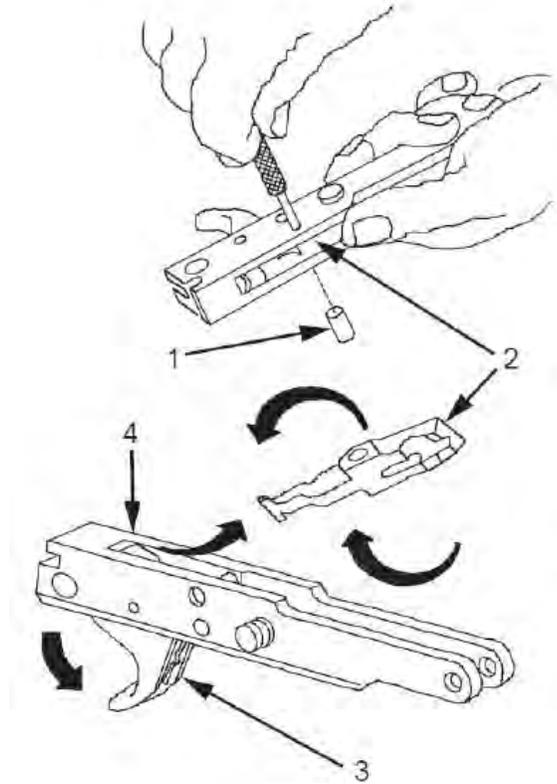
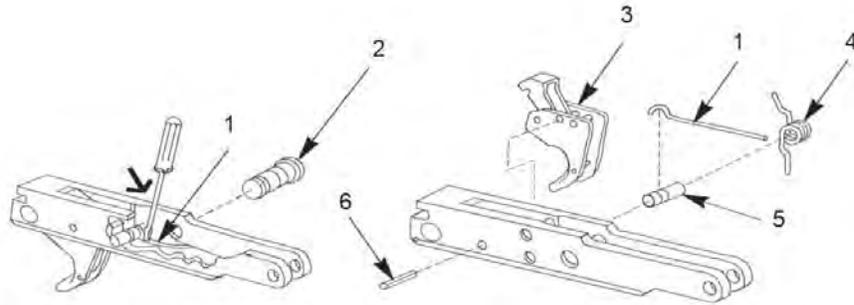

Figure 2. Sear, Sear Pin, Trigger, Tripping Lever
Figure 3. Grooved Pin and Spring Pin Removal.
6. Apply slight pressure on sear (Figure 2, Item 2) and push out headless straight pin (Figure 2, Item 1).
7. Remove sear (Figure 2, Item 2) by pulling trigger (Figure 2, Item 3) and give sear 1/4 turn, freeing it from the slot in the tripping lever (Figure 3, Item 4).
8. Depress retaining spring (Figure 3, Item 1) and remove safety (Figure 3, Item 2) and retaining spring (Figure 3, Item 1) using a small, flat-tipped screwdriver.
9. Remove grooved pin (Figure 3, Item 5) and sear spring (Figure 3, Item 4).
10. Remove spring pin (Figure 3, Item 6) and discard. Remove trigger assembly (Figure 3, Item 3).